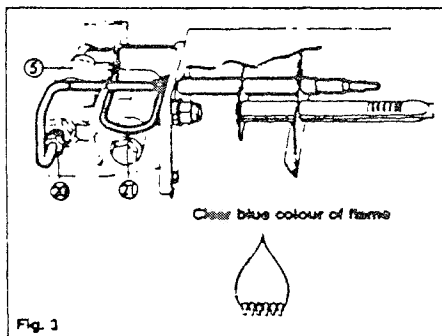

Fig. 3
## FLAME FAILURE SAFETY DEVICE (FIG. 3)
6. Reassemble in reverse order. Check that feeler has been correctly refitted in relation to burner. See Fig. 3.